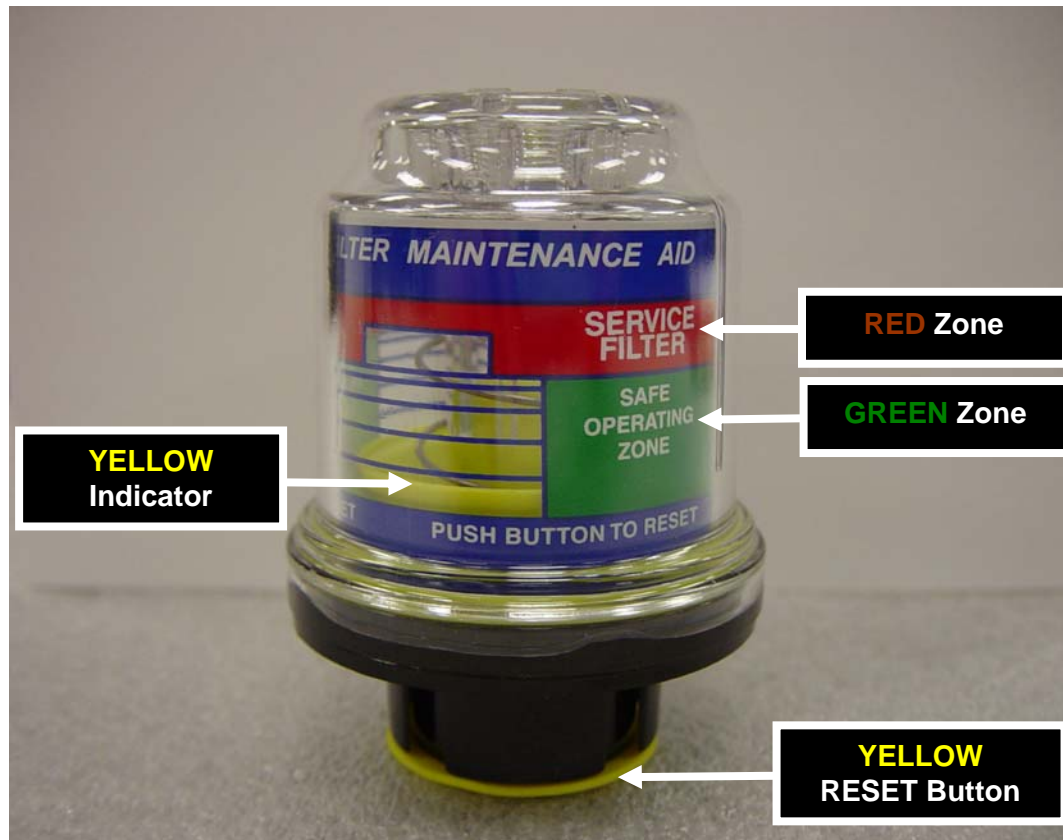

Figure 8-4: USE OF FILTER MAINTENANCE AID (FMA)
The Filter Maintenance Aid (FMA) is designed to hold the highest differential pressure across the filter assembly reached during the last flight, and can be reset by depressing the yellow button marked “PUSH TO RESET” located on the end of the filter maintenance aid (See Figure 8-4).
- e. Reset the Filter Maintenance Aid by depressing the yellow button marked "PUSH TO RESET" located on the end of the filter maintenance aid (See Figure 8-4).